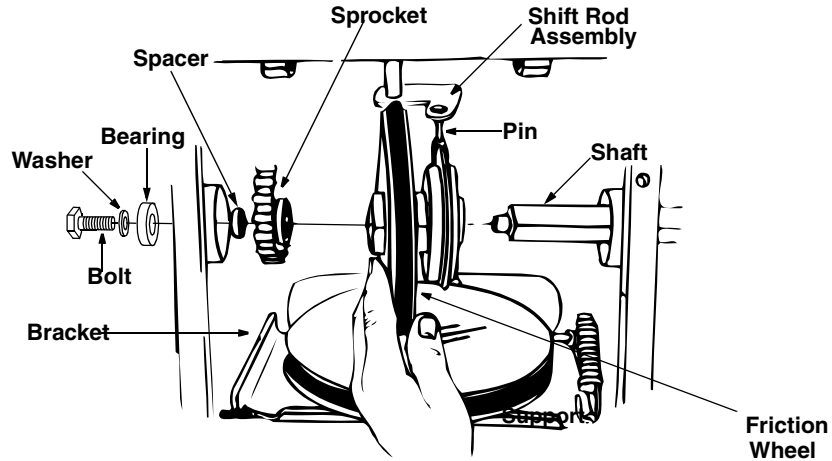

Figure 30
- Sliding the shaft to the right, remove the spacer, the sprocket and the friction wheel assembly from the shaft. See Figure 30.
- Position the friction wheel assembly up onto the pin of the shift rod assembly and slide the shaft through the friction wheel. See Figure 30.